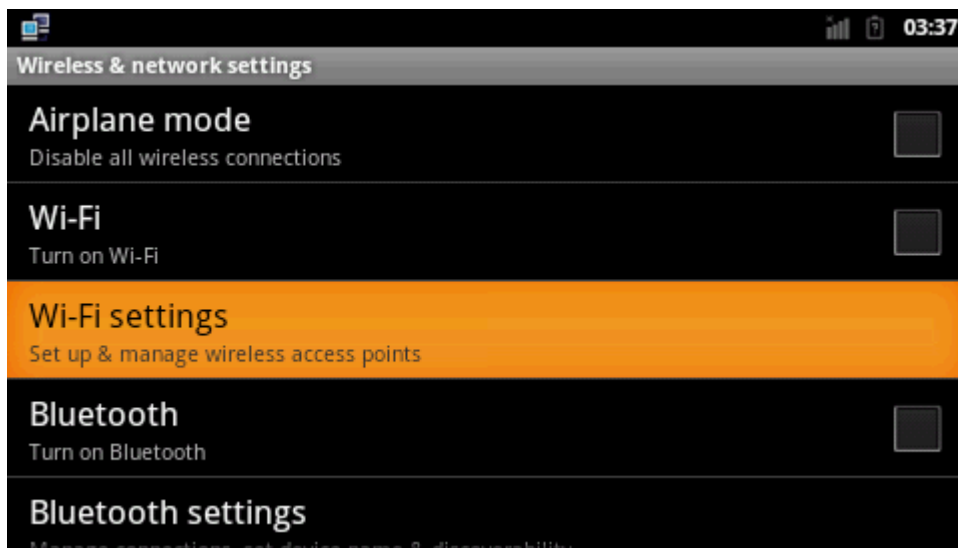

Figure 5-30
(4) Click "Wi-Fi settings" option to configure wireless network. Refer to figure 5-30: